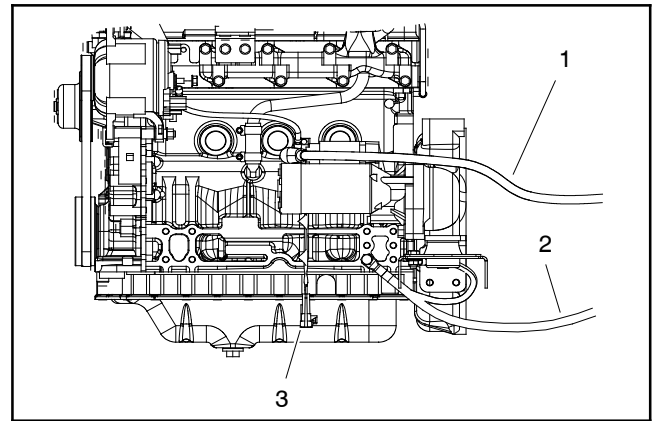

Figure 16
- B. The positive battery cable from the engine starter motor (Fig. 16).
- C. The fusible link harness from the main wire harness (Fig. 16).
- D. The negative battery cable at the engine block (Fig. 16).
B. The positive battery cable from the engine starter motor (Fig. 16).
C. The fusible link harness from the main wire harness (Fig. 16).
D. The negative battery cable at the engine block (Fig. 16).